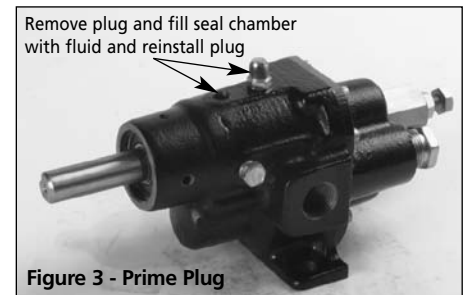

Figure 3 - Prime Plug
1. All pumps must be primed before start-up and the seal chamber needs to be filled (See Figure 3). Never operate a pump unless it is secured to a solid foundation and all safety shields are installed.
a. For fluids with viscosities less than 2000 SSU, a flush is not necessary, but the seal cavity must be pre-filled with either the operating fluid or a neutral fluid. This is to ensure seal cooling and lubrication during start-up (See Figure 3).